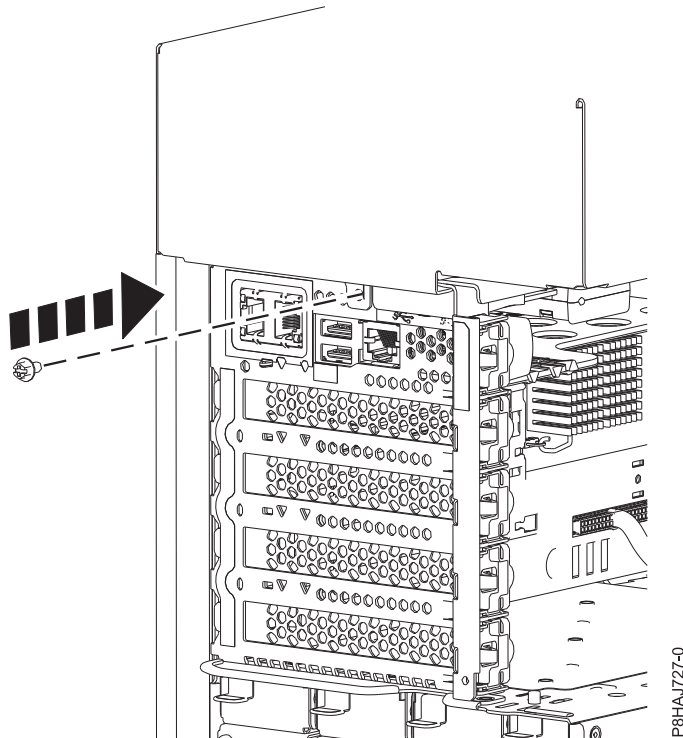

Figure 19. Installing the 8286-41A side cover screw
5. Install the side cover rear screw with a Phillips screwdriver as shown in Figure 19 on page 36.